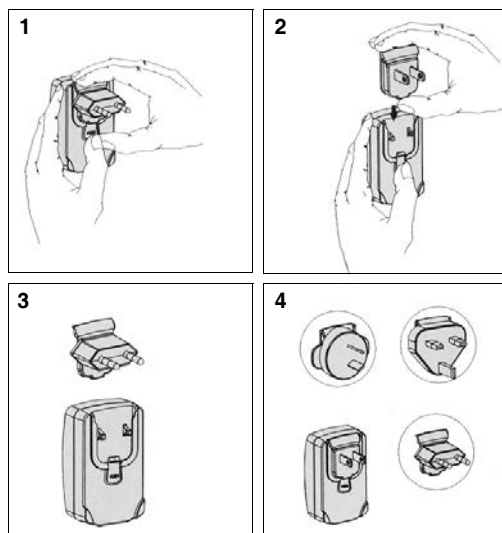

Fig. 1 Fitting the mains plug adapter
- See *Fig. 1* and follow the instructions which are shown on the packaging of the mains plug adapter.